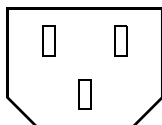

Figure 4-1 Receptacle (CEE-22)
- **CEE-22 requirements:** The female receptacle of the cord set, shown in Figure 4-1, must comply with CEE-22 requirements.